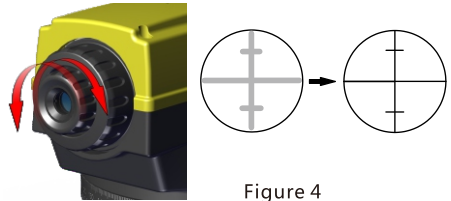

Figure 4
- ① Rotate eyepiece to make the reticle being clear. (Figure 4)